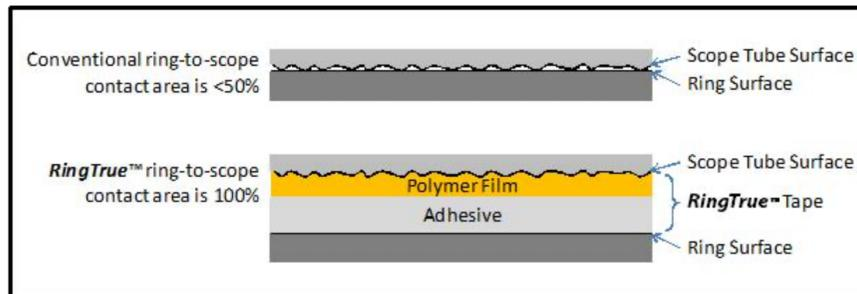

Figure 3. **RingTrue™** contact area is 100%.
**RingTrue™** scope mounting tape was developed by **HighPowerOptics**. This tape has a 0.0010" thick, incredibly strong polymer film attached to a 0.0015" thick adhesive layer (see Figure 3). The tape conforms to the surface texture of both the ring and scope tube, providing the maximum possible contact area between the two surfaces. This is especially important for scopes with a matte surface finish. The tape and adhesive are highly resistant to heat and moisture. This method of installing a scope provides: